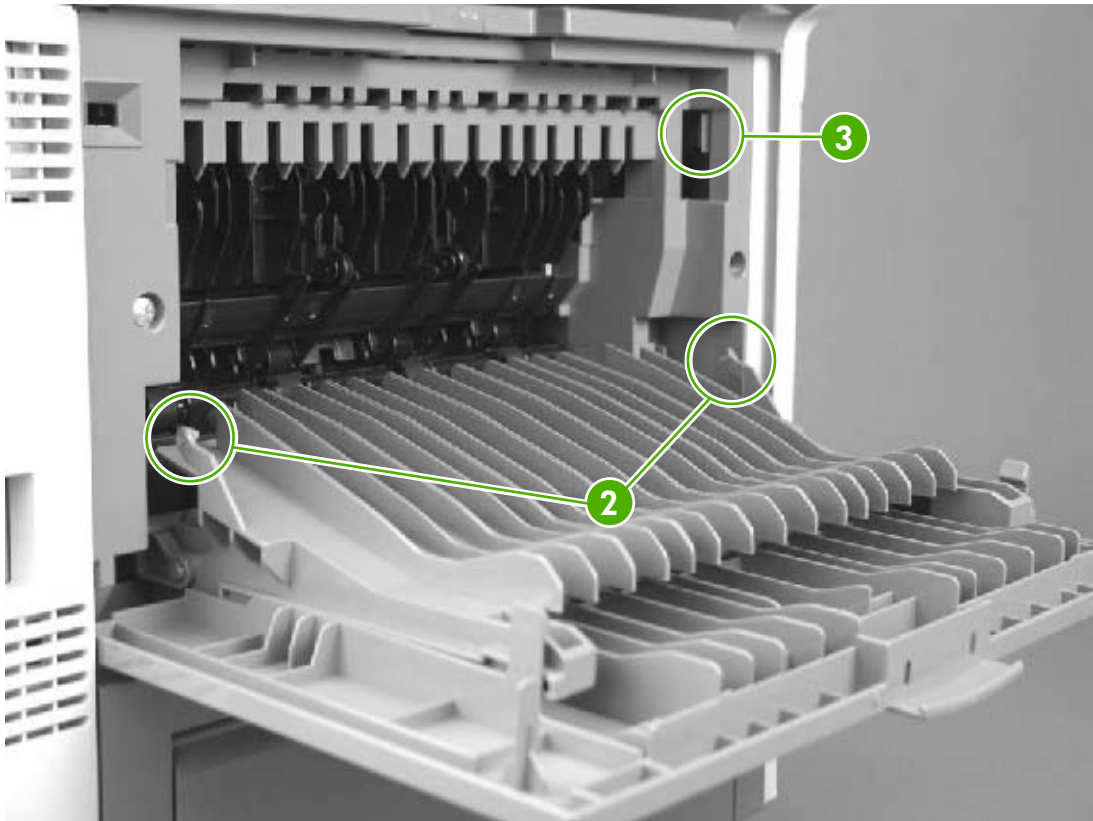

Figure 5-20 Removing the left-side cover (2 of 3)
3. Open the rear output bin all the way, and then press the output bin down firmly to disengage two door-stops (callout 2 in Figure 5-20 Removing the left-side cover \(2 of 3\) on page 98).